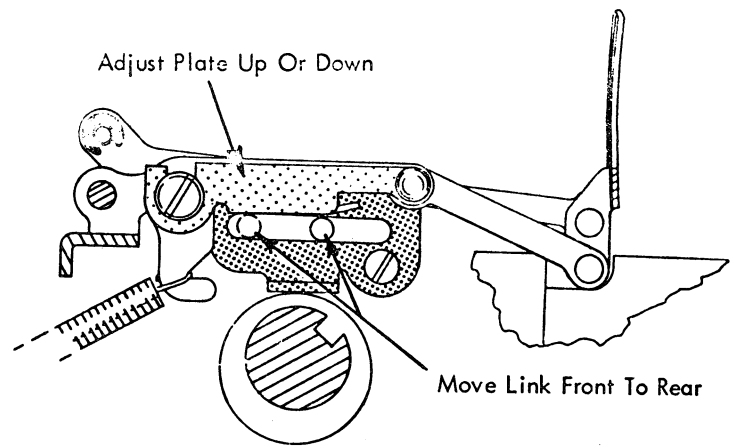

FIGURE 267. Ribbon Lift Guide Plate Adjustment
5. **Ribbon Lift Guide Plate** - Adjust the plate as low as possible without causing a change in the ribbon lift guide height as the ribbon lift lever is moved from the low lift to the high lift position (Fig. 267). The ribbon lift cam should be at the low point when the check is made.